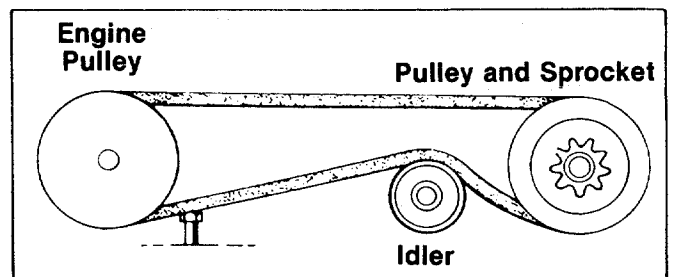

FIGURE 29.
11. Reassemble in reverse order with the new belt, making certain the idler pulley is under the belt. See figure 29.